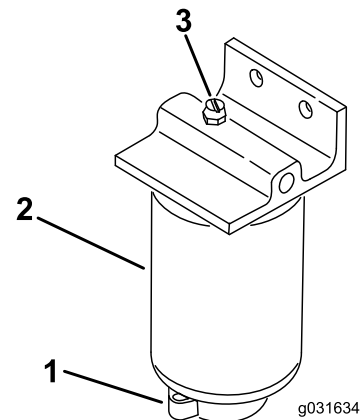

Figure 51
2. Loosen the drain valve on the bottom of the filter (Figure 51).
1. Clean the area where the filter mounts (Figure 51).